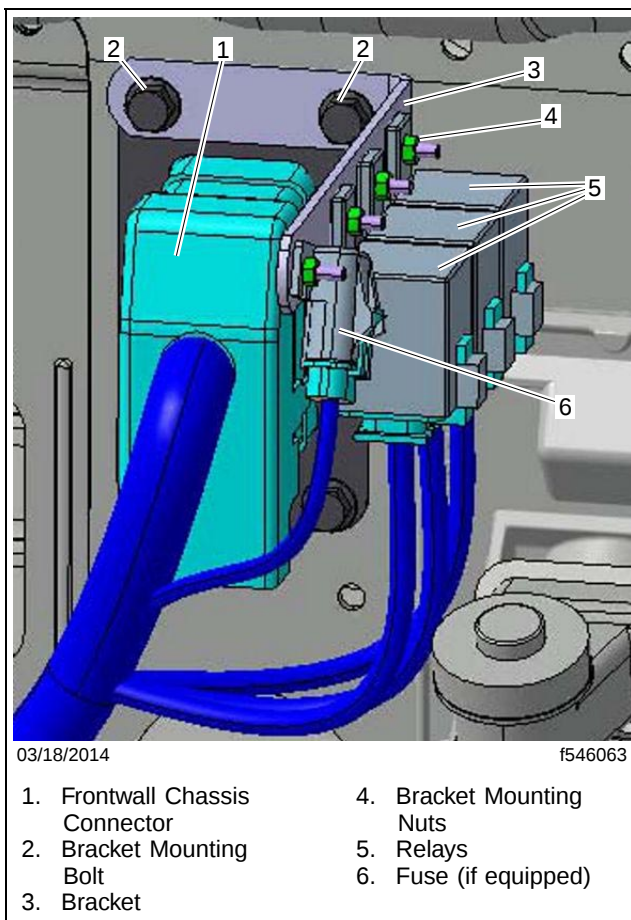

Fig. 1, Frontwall Relay Bracket Installation
3. Remove the relay and fuse mounting nuts from the mounting bracket, then move the relays and the fuse out of the way. See **Fig. 1**.